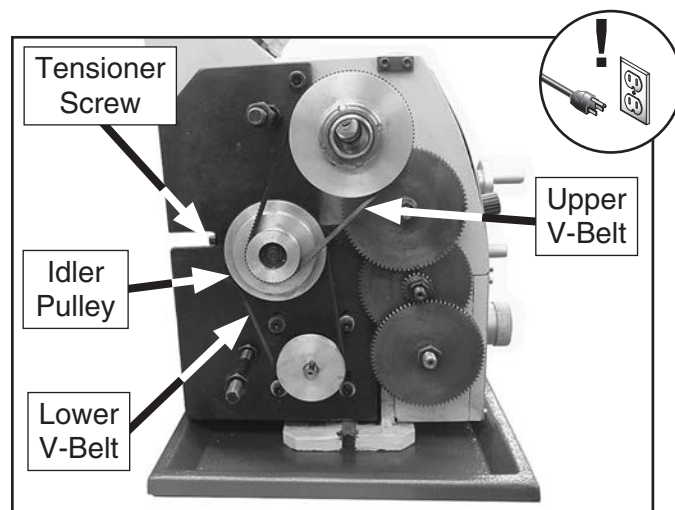

Figure 139. Tensioner screw and V-belts.
4. Turn tensioner screw (see **Figure 139**) clockwise to tension V-belts or counterclockwise to loosen V-belts.
The cross slide backlash is adjusted by tightening and loosening the set screw shown in **Figure 139**. The set screw adjusts the height of the leadscrew nut, taking up lash between the nut and leadscrew.